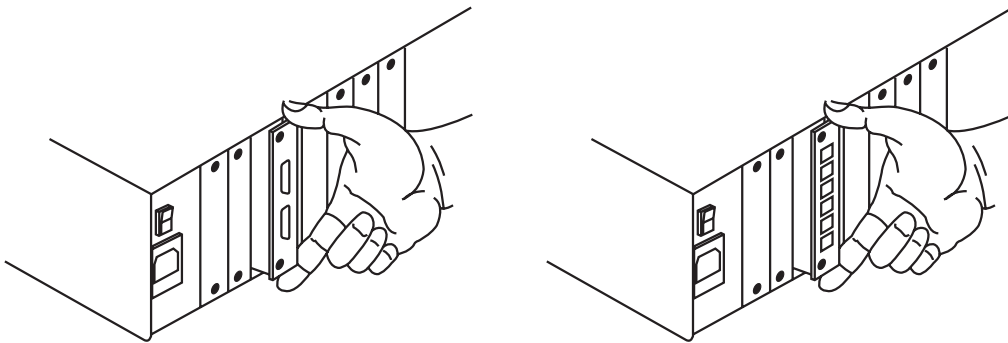

Figure 6-9. Inserting a regular (left) or CAT5 (right) Expansion Card.
5. If you look into the open slot on the Switch, you will see "guide tracks" that the top and bottom of the Card should slide along when you install it. Slide the Card gently into the slot along these tracks, until the Card's two HD26 connectors or six RJ-45 connectors line up flush with the back of the unit, as shown in Figure 6-9.